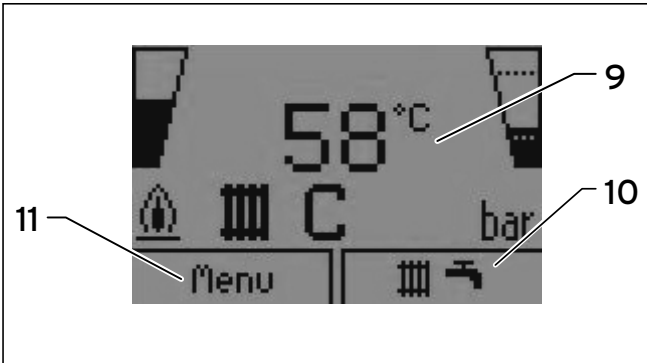

Fig. 4.2 Display ecoTEC plus
- Press the on/off switch (1) to switch on the boiler.
If the boiler is switched on, then the current heating flow temperature and other information will appear in the display (2) (Fig. 4.2).